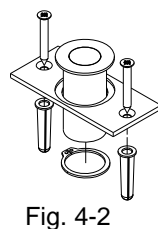

Fig. 4-2
3. Drill a $\frac{3}{4}$ " diameter x 1 $\frac{3}{4}$ " deep hole into the floor where it is marked. If floor strike assemblies (Fig. 4-2) are required, the hole should be drilled 1 $\frac{3}{8}$ " x 2 $\frac{5}{16}$ " deep.